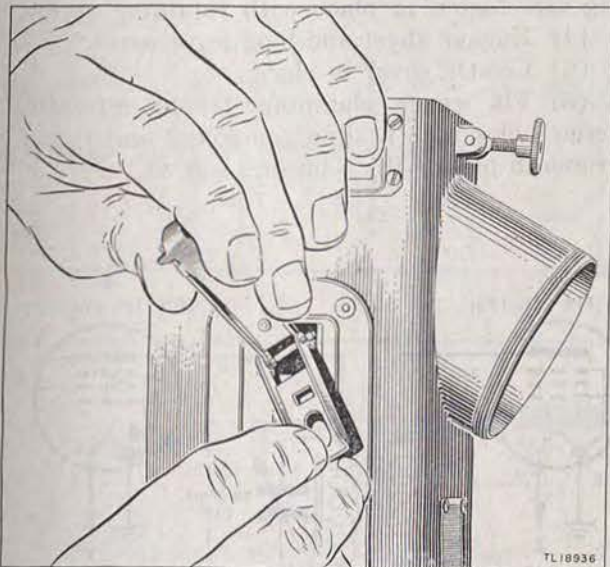

Figure 54. Removal of long lever arm assembly, Radio Receiver and Transmitter BC-611-(\*).
(2) Carefully insert a small thin screw driver between cover and housing and move around contour of frame to separate cover and housing.
(3) Lift cover and frame from housing and separate.
(4) Separate short and long lever arms by depressing retaining spring and moving arms apart.
(5) Unscrew actuating linkage retaining screws.
(6) Rotate long lever arm assembly, as shown in figure 54, and lift off housing.